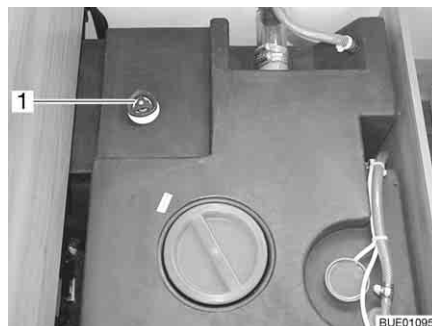

Fig. 239 Water tank with handle
- Turn the handle (Fig. 239,1) on the water tank in an anticlockwise direction as far as possible beyond the resistance to fully open the drainage opening.